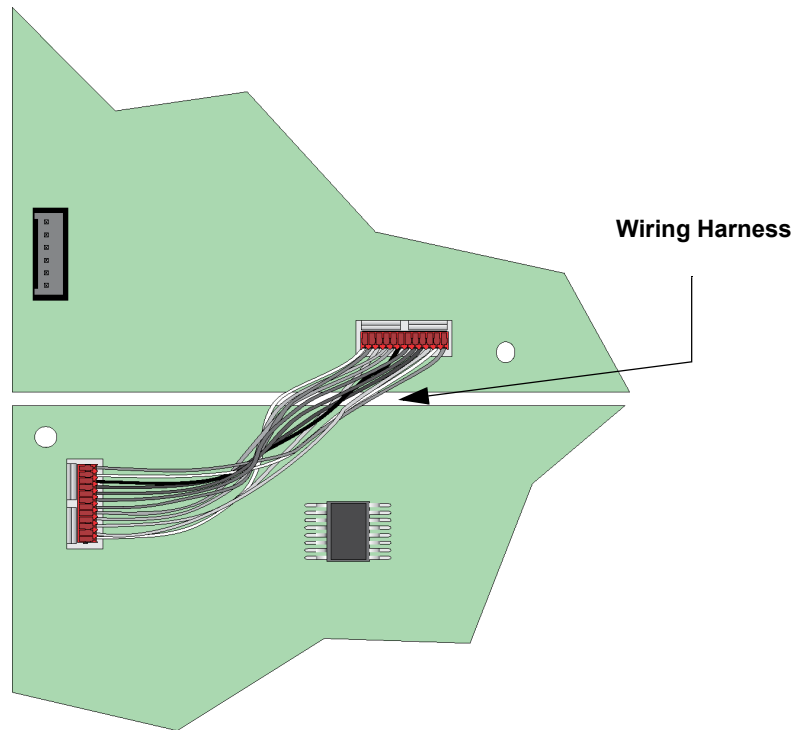

Figure 4-13 Wiring Harness Connection
6. Connect one end of the wiring harness (P/N 130398 supplied) to the EVS-VCM and the other end to the EVS-SW24 as shown in Figure 4-13.